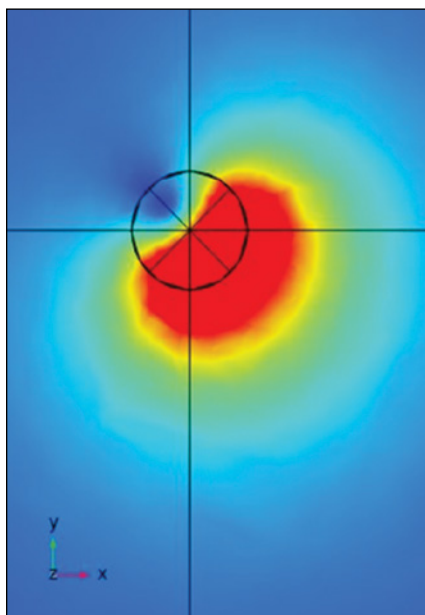

Fig. 3 – Simulated thermograph of steerable ablation probe.
- **Steerable probes:** These allow clinicians to precisely direct energy to diseased tissues while avoiding healthy structures. Additionally, their ability to adjust in real-time eliminates the need for repositioning electrodes during procedures (see Figure 3).